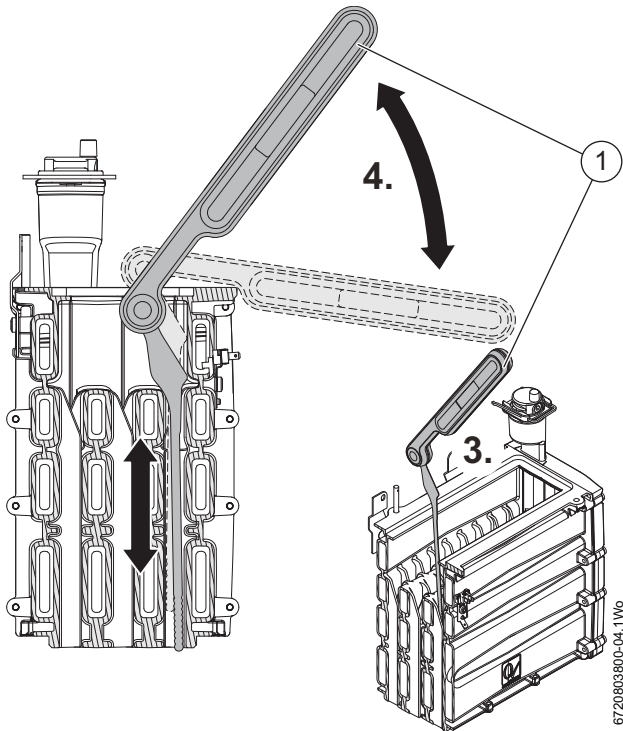

Fig. 82 Cleaning the front channels
3. Orient the cleaning tool (2) as shown in figure 82 and insert the tool into the front channel for cleaning.